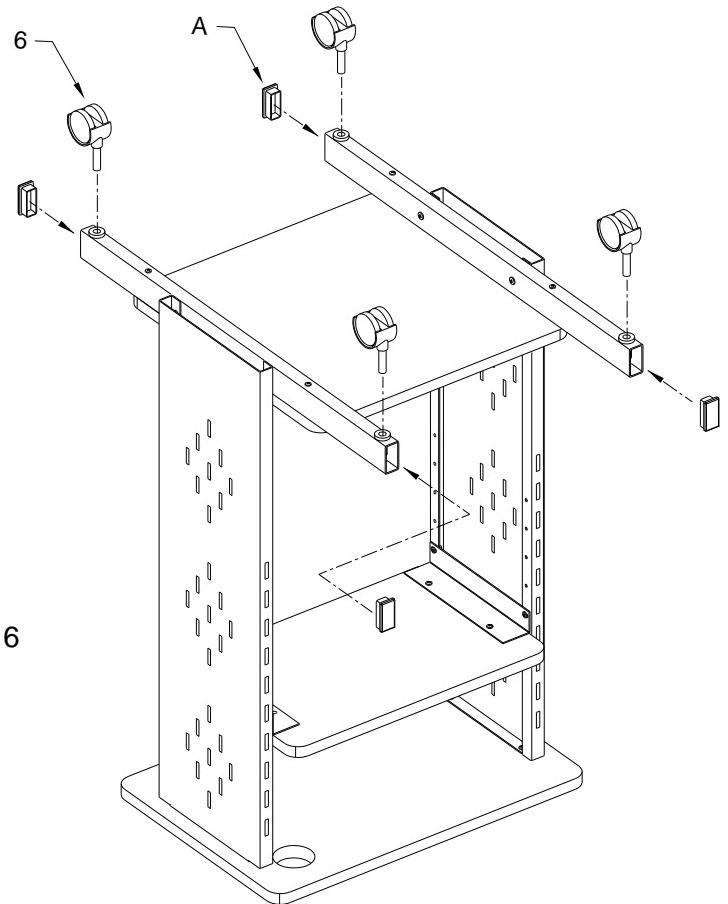

Figure 6
7. Insert Caster stems into the caster sockets of the Base Tubes. See Figure 6. Insert rectangle Caps into Base Tube ends. Stand cart upright on Casters.